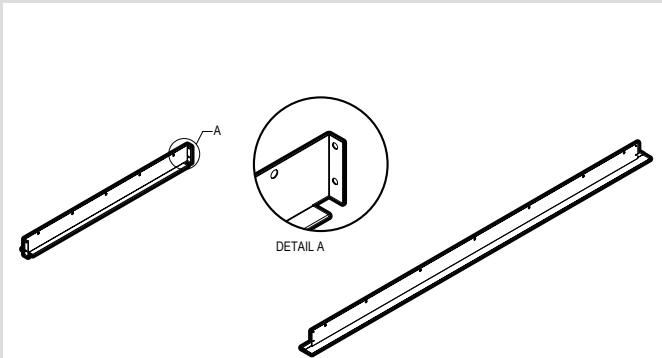

Figure 5
4. Identify the side rails and end caps (Fig. 5).